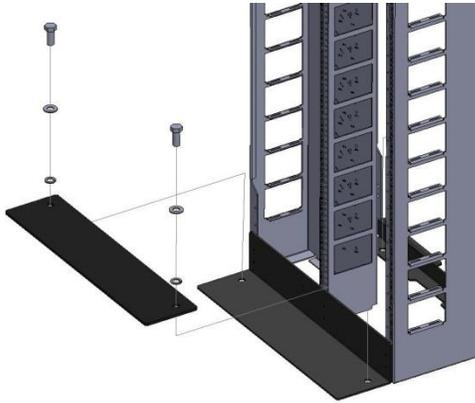

Figure 32
3. Place the Seismic Bracing plates over the mounting holes as shown in the exploded detail (figures 32 and 33).